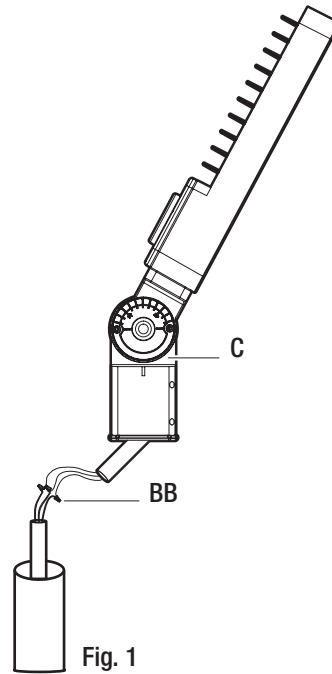

Fig. 1
**NOTE:** The fixture comes with the 2-3/8 in. swivel slipfitter arm (C) already attached to the fixture (A).
- Pull the leads through the pole and the slipfitter knuckle arm (C).
- Follow the wiring instructions given on step 4A to complete the wiring and use wire nuts (BB) on the connections. (Fig. 1)